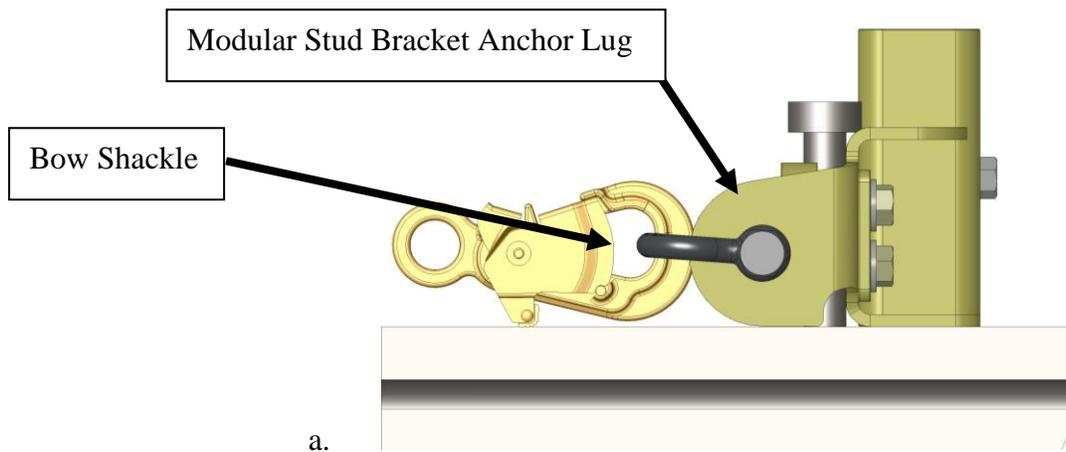

Fig. 9 Acceptable Method to Attach to the Personal Fall Arrest Anchorage Lug
- Once a bracket has been secured in place, it is possible to connect to it using a bow shackle as an attachment point for a shock-absorbing lanyard to provide temporary fall protection during the installation of the rest of the fall protection equipment. Attach a 1/2- or 5/8-in. bow shackle through the hole in the Anchorage Lug. Secure in place with the nut and lock ring. The Personal Fall Arrest Anchorage Lug is now ready to use as an attachment point for an approved personal fall arrest device. **WARNING:** Because the anchor lug/attachment point is located right at foot level exposing the worker to a potential 12-ft. free-fall, extreme caution must be used in selecting a personal fall arrest device. Only shock-absorbing lanyards that are approved for use in 12-ft. free-falls may be used. Only one person may be attached to the anchor/bow shackle at one time. Do not connect directly to the anchor lug with a snaphook or carabiner; the gate could become side-loaded creating the possibility of roll-out. Connect only to the bow shackle attached to the anchor lug. See Fig. 9.